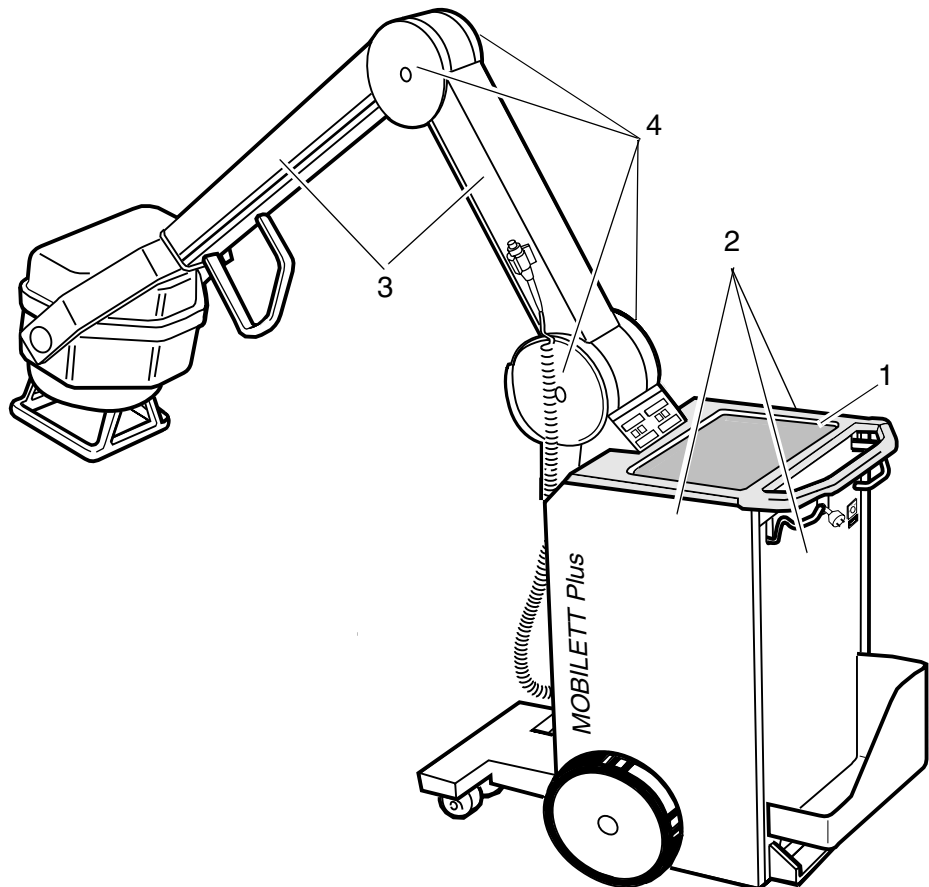

Fig. 3 Removal of covers
3. Remove the system upper cover (pos. 1 / Fig. 3). If MOBILETT Plus M/ -HP, disconnect K106.
5. After approximately 5 minutes the capacitor bank will be discharged. Remove the side covers and the cover with the cassette compartment (pos. 2 / Fig. 3).
8. Remove the upper and lower arm cover (pos. 3 / Fig. 3).
9. Remove the circular covers (pos. 4 / Fig. 3) and disconnect the three ground connections.